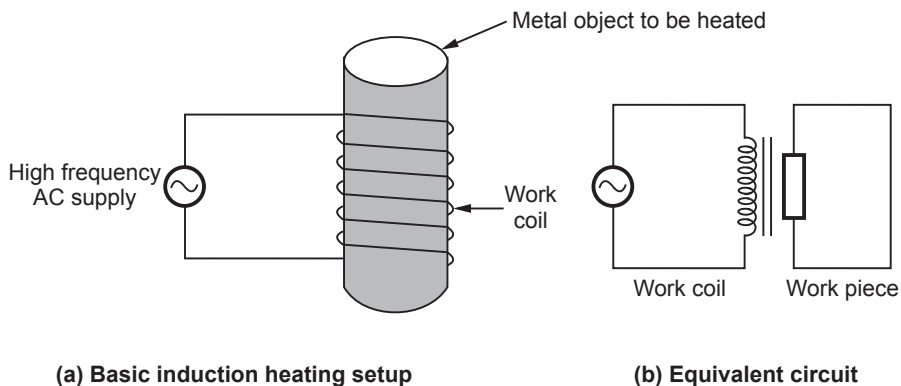

Fig. 15 Principle of induction heating
- Fig. 15 shows the induction heating setup used for metal object.
- Fig. 15 (b) shows an equivalent circuit of the induction heating. The work coil acts as primary and work piece acts as shorted secondary. The object heats up due to current flow in shorted path.